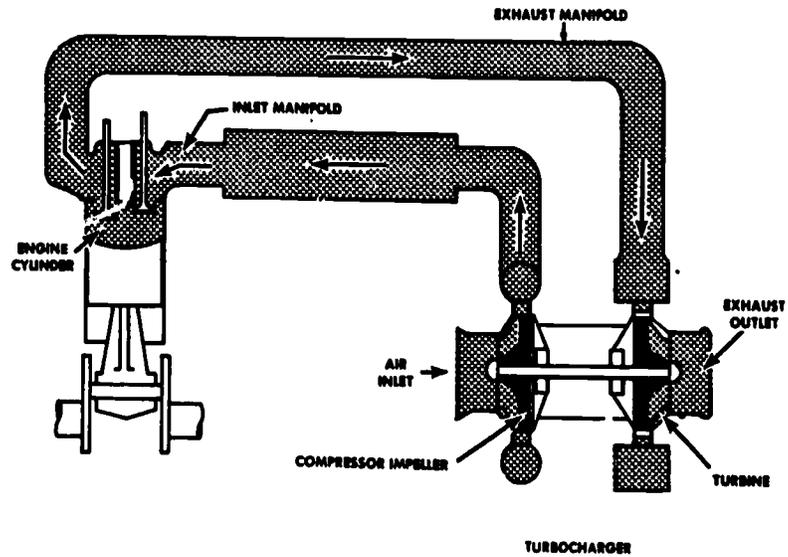

Fig 3-4. Turbocharger.
- The turbocharger (fig 3-4) is comprised of two impellers on a single shaft. The unit is mounted on the exhaust manifold to utilize the exhaust gas pressure to turn the impellers. As the shaft turns, the intake impeller (turbine) pulls air in and forces it into the intake manifold for use by the engine. Since the turbocharger pressurizes the intake air, all exhaust gas remaining in the cylinder is pushed out before the exhaust valve closes. This scavenging process improves engine power.